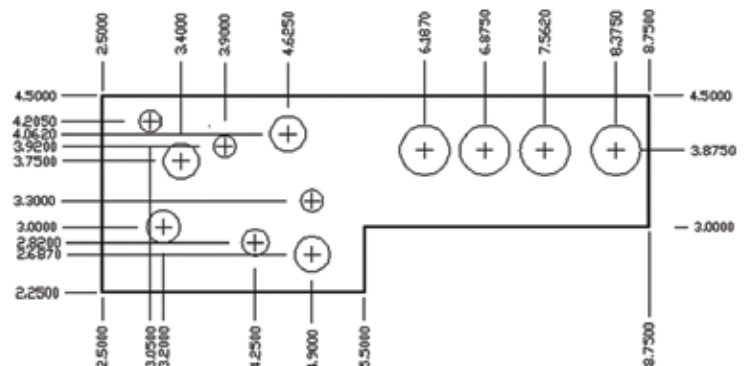

Figure 5.5
1. Draw the object shown in Figure 5.5 using the coordinate values specified for each of the six corners.
8. Finish dimensioning each circle and each corner of the object until your drawing looks like Figure 5.5 below.